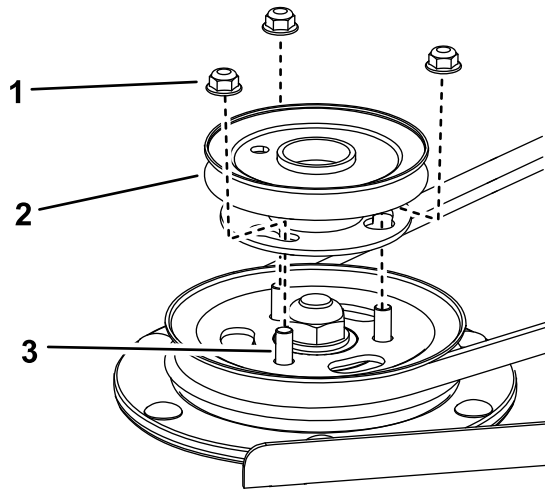

Figure 4
- Remove the nuts from the spindle in the right deck pulley and use them to attach the pulley assembly to the deck pulley (Figure 4).